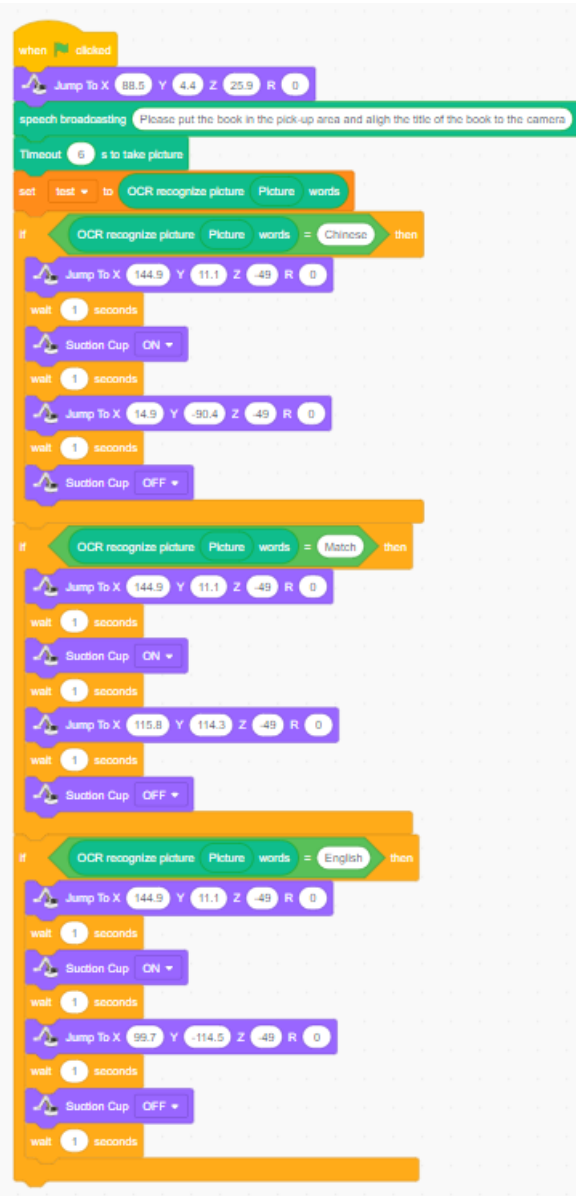

Figure 5.25 Determining whether it is an English book
Step 11: Determine whether the book name recognized is "English". If yes, suck the English card to the storage area of the English book, as shown in Figure 5.25.